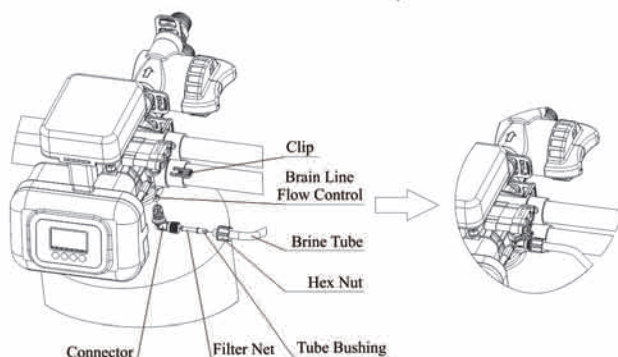

Figure 8
④ Connect brine tube
a. As Figure 8 shows, insert brain line flow control into connector.